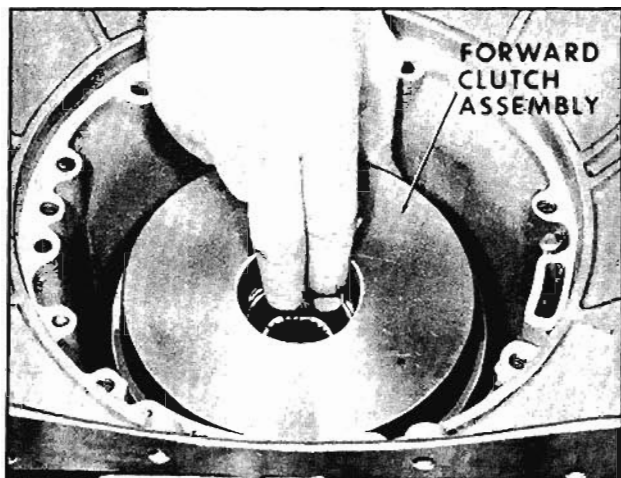

Fig. 6-437 Installing Forward Clutch
1. Install forward clutch assembly turning slightly to engage low sun gear with planet pinions. (Fig. 6-437)